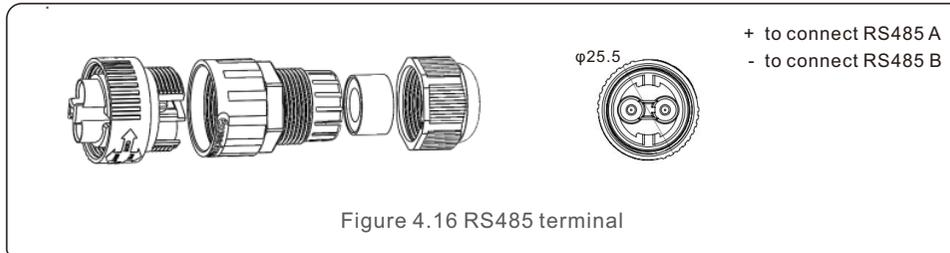

Figure 4.16 RS485 terminal
- a. Refer to figure 4.16, the RS485 terminals for inverter and EPM are already assembled.
- b. Refer to figure 4.16, connect communication cable between inverter with EPM, and then measure the distance from EPM to inverter. Use proper cable for RS485 connection. (0.5mm2)